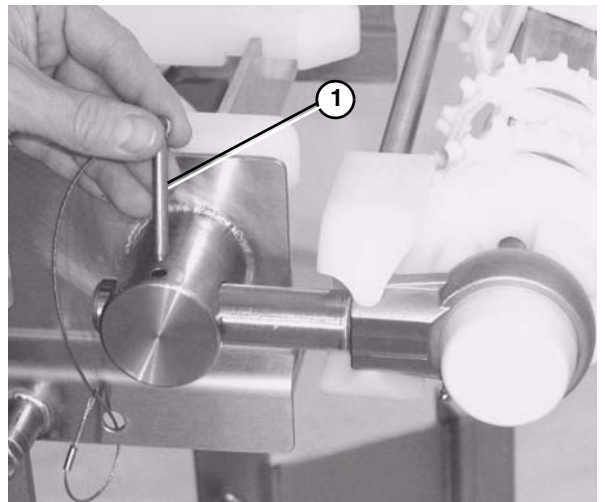

Figure 57
- Remove the pull pin (**Figure 57, item 1**).
1. Remove the pull pins from take up blocks (**Figure 57**).